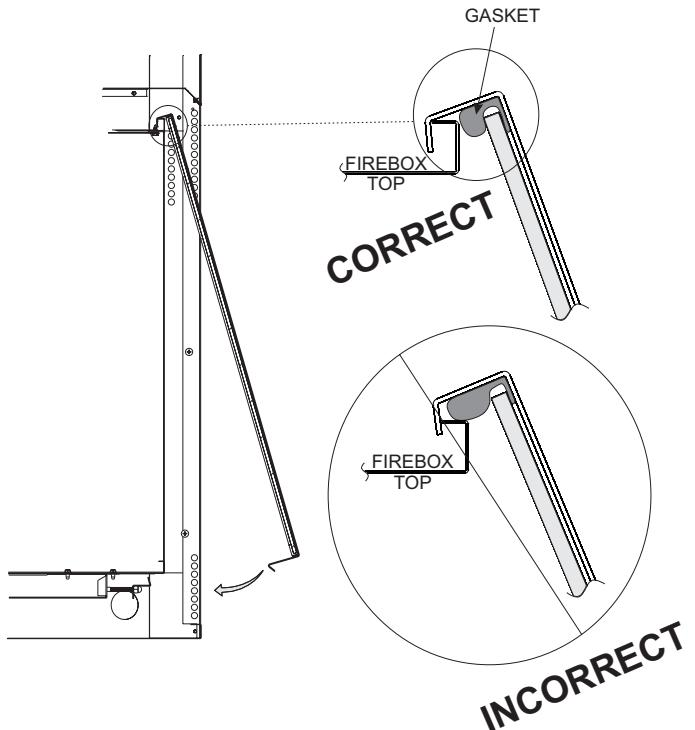

Figure 78
7. Reinstall glass front by hanging the top of the frame on top of the firebox, making sure the gasket at the top is positioned in front of the firebox flange and not on top **See Figure 78**.
1. When installing the glass door, make sure that the door top flange is hooked over the firebox top flange as illustrated in the "Correct" view in Figure 78.
**Important: Do not allow the gasket across the top of the door to roll up on top of the firebox flange as shown in "Incorrect" view in Figure 78.**